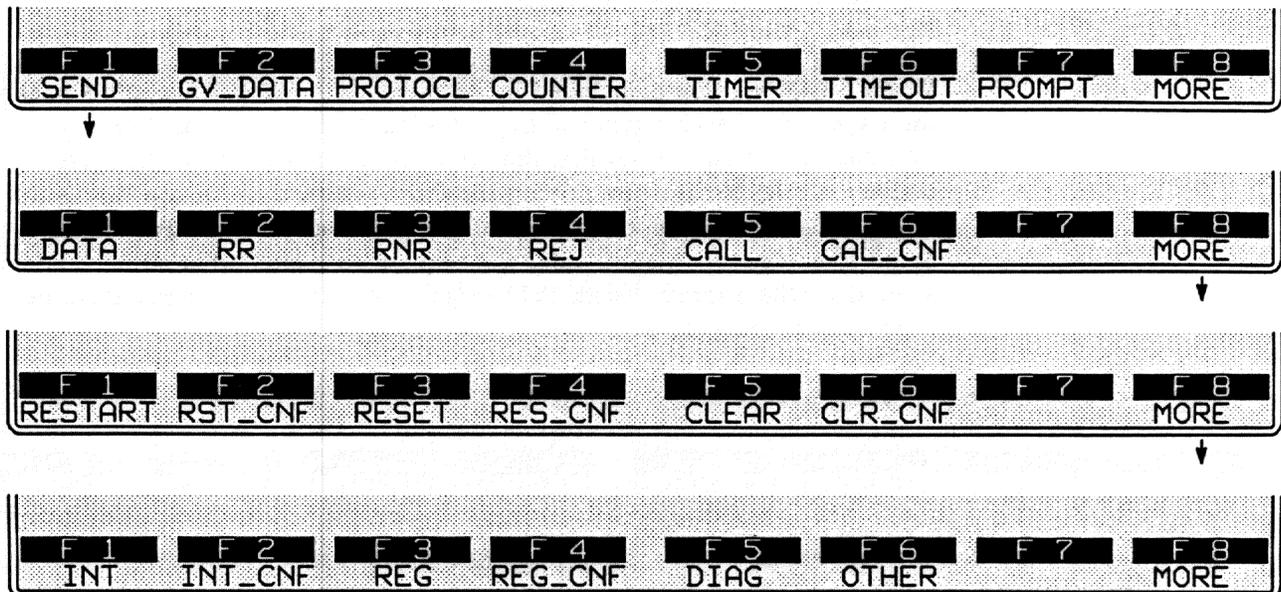

Figure 34-22 SEND actions always specify a packet type.
Press the softkey for **SEND** to access three racks of softkeys with names of packet types that may be named in **SEND** actions. All data generated by the Layer 3 X.25 package must be enclosed in a packet that is identified in a **SEND** action by *type*. (Only at Layer 1 can data be generated as a simple character string without any protocol building blocks.) The complete set of packet types is given in Figure 34-22.
5. *“Other” packets.* Any packet type may be entered in a SEND action as a hexadecimal value instead of by name. Press the softkey for OTHER, on the bottom rack in Figure 34-22. Enter the hex value in the form of two alphanumerics. Here is a Call Confirm packet entered as a SEND OTHER action: